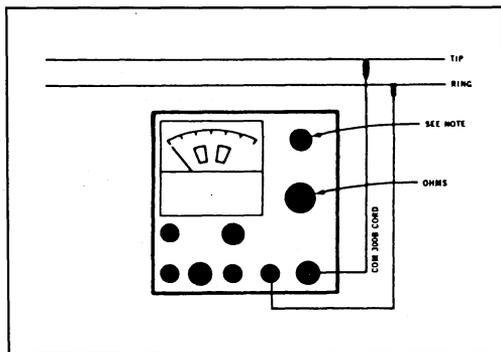

FIGURE 16
4.03 To use the capacity check feature, the cord connections are made and the switches and Function Knob are set as in the resistance measuring mode (see Figure 16). To obtain a momentary meter deflection (kick), operate the Range switch from X1 to X1000 and observe the maximum point of deflection. It is not necessary to rapidly flip this switch back and forth (as with older test sets) to produce a significant deflection.